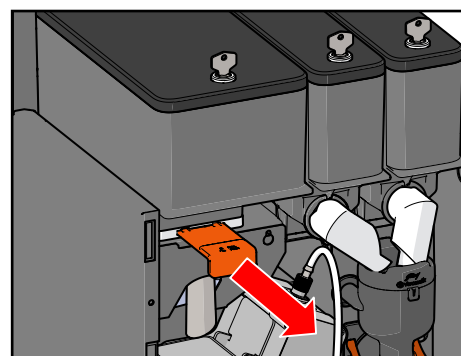

Figure 59.
8. Pull the slide to the front (see Figure 59).